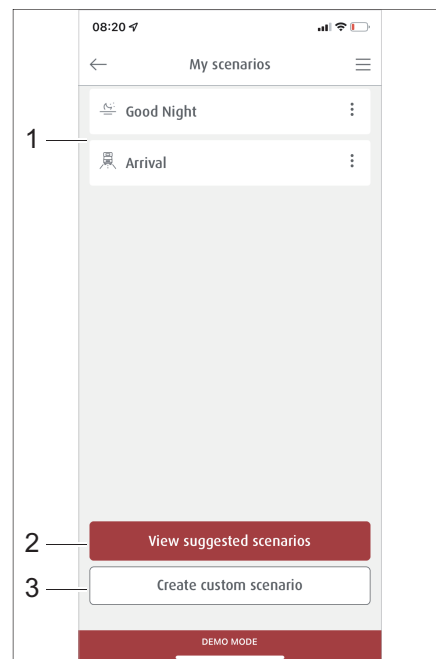

Fig. 282 Managing scenarios
In the *Scenarios*, all stored scenarios can be found (Fig. 282,1). Preset scenarios (Fig. 282,2) can be viewed or new ones created (Fig. 282,3).
- In the *Scenarios* menu, click on the *View Preset Scenarios* (Fig. 282,2) button. A list of preset scenarios will appear.
The buttons for the selected scenarios will be marked in red and transferred to the list in the *My Scenarios* menu (Fig. 282,1).